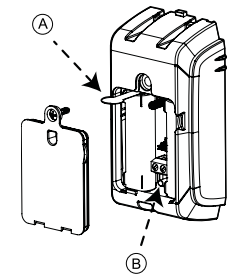

Figure 8 - Enrollment options
To enroll the device as noted in step 3, you can power on the device, press the enrollment button, or remove the pull tab on new devices (see Fig. 8).
2. Press the tamper switch once (see Fig. 8) and release it.